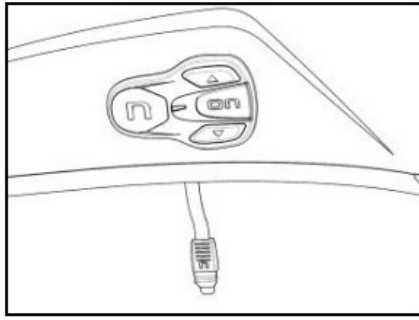

Fig. 5
- Apply the keypad to the shell and press down on its entire surface to make sure that it sticks properly (Fig. 5).